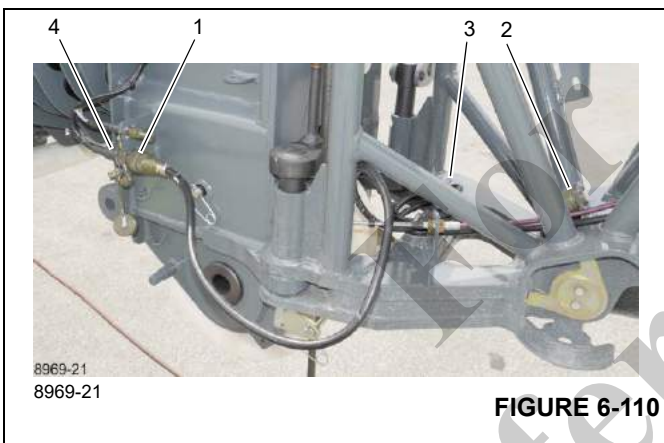

FIGURE 6-110
1. Remove the plug (1), (Figure 6-110) from the storage socket (2), (Figure 6-110) and unwind the cable from the storage location (3), (Figure 6-110). Connect the plug (1), (Figure 6-110) to the socket (4), (Figure 6-110).
2. Wind the cable around the storage location (3), (Figure 6-110) such that it will not be damaged during crane operation.